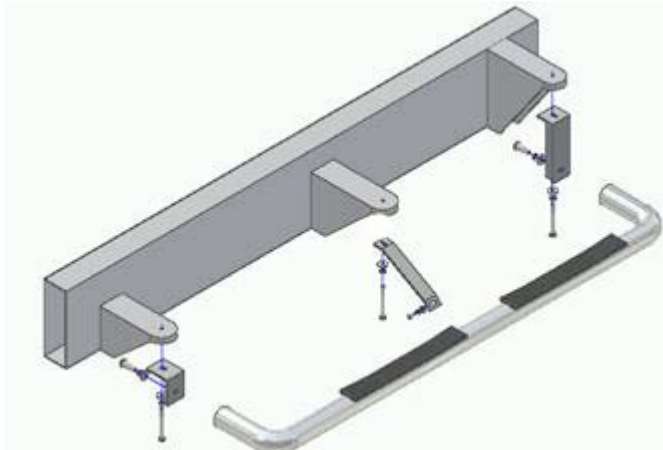

Figure 1.1 – Driver-Side Full Assembly View
1. Begin installation by working on driver side of the vehicle (see Figures 1.1 – 1.4).